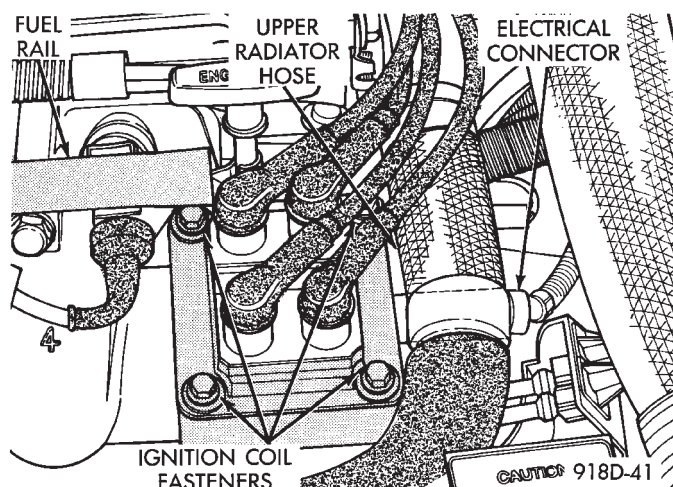

Fig. 15 Ignition Coil Service—Turbo III
- (1) Remove spark plug cables from coil (Fig. 15).